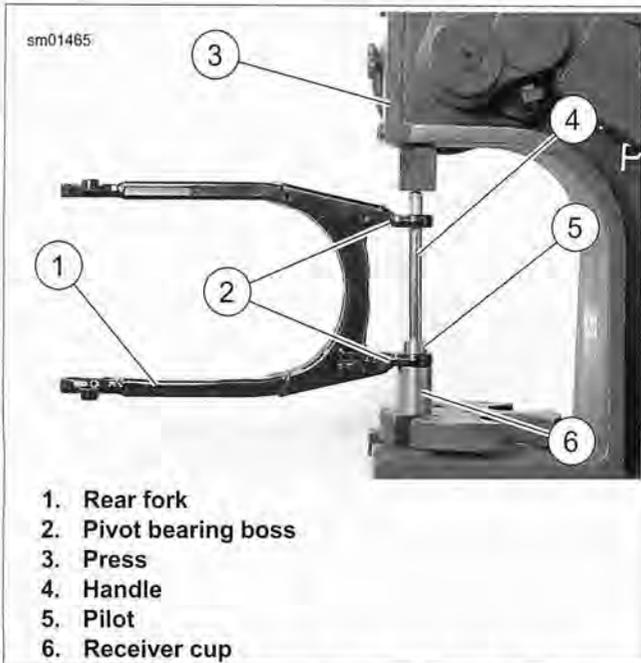

Figure 2-163. Removing Rear Fork Pivot Bearings
1. See Figure 2-163. Using BEARING REMOVER/INSTALLER TOOL (Part No. HD-46281) (4, 5, 6), carefully press bearing assemblies from fork bearing bosses (2):
- a. Place receiver cup (6) on press bed, with recessed end of cup facing up.
- b. Place rear fork pivot bearing boss (2) over cup as shown in the photo.
- c. Slide pilot (5) through bearing and into receiver cup.
- d. Insert handle (4) through other rear fork pivot bearing boss and bearing, down into pilot.